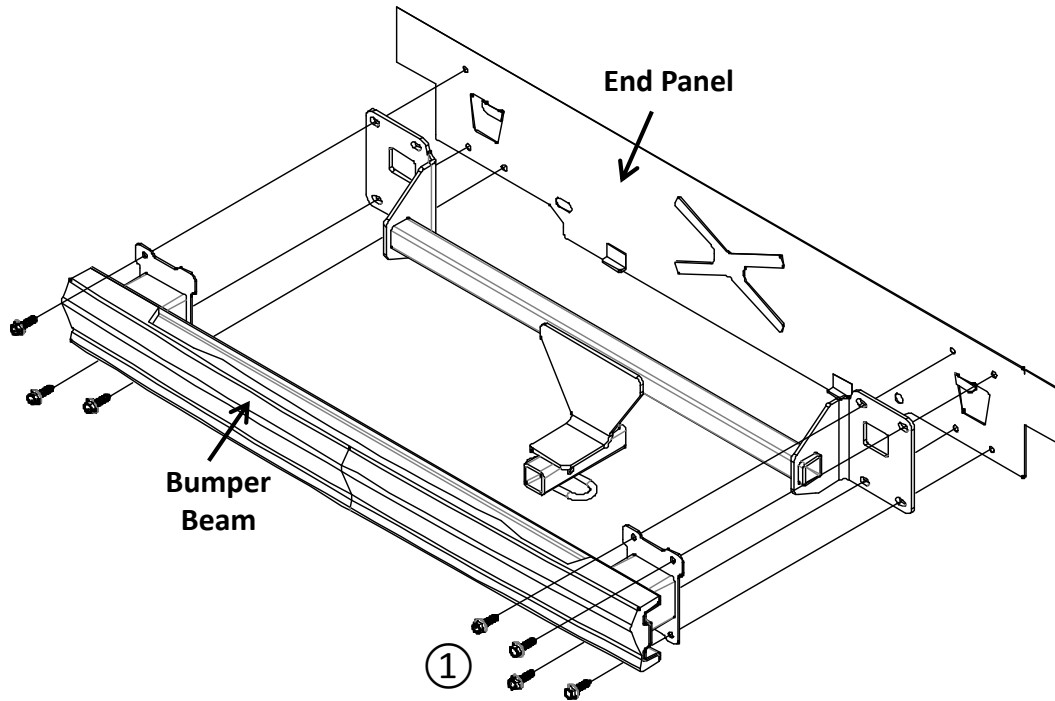

Figure 1
- Remove underbody panel** – Using T25 torxbit and 10 mm socket, remove (3) screws and (2) plastic flange nuts from bottom panel on passenger side.
- Remove taillights** - Open tailgate. Remove the plastic cover near taillight with a flat head screwdriver, both sides. Using T25 torxbit socket, remove (2) screws holding taillight, both sides. Slide the taillights rearward and unplug the wiring.
- Remove bumper fascia** - (a) Using T15 torxbit socket, remove (4) screws and tabs from the bottom fascia. (b) Using T25 torxbit socket, remove (1) screw from the bottom of wheel well liner, (3) horizontal screws from wheel well liner, and (1) vertical screw in the upper area behind the wheel well liner, both sides. (c) Using plastic trim tools, remove the fascia starting at the outer edges near wheel wells while gently pulling the fascia. (d) Disconnect the wiring harness from fascia if present. Set fascia aside.
- Remove bumper beam** - Using a 13 mm socket with 6" extension, remove (7) factory M8 bolts holding bumper beam to end panel.
- Install hitch** – Align the bumper beam with hitch on the floor. Raise the hitch and bumper beam into position aligning holes on the end panel. Loosely reinstall (7) M8 bolts ① to the bumper beam and hitch, see **Figure 1**.
4. Remove bumper beam - Using a 13 mm socket with 6" extension, remove (7) factory M8 bolts holding bumper beam to end panel.
5. Install hitch – Align the bumper beam with hitch on the floor. Raise the hitch and bumper beam into position aligning holes on the end panel. Loosely reinstall (7) M8 bolts ① to the bumper beam and hitch, see Figure 1.